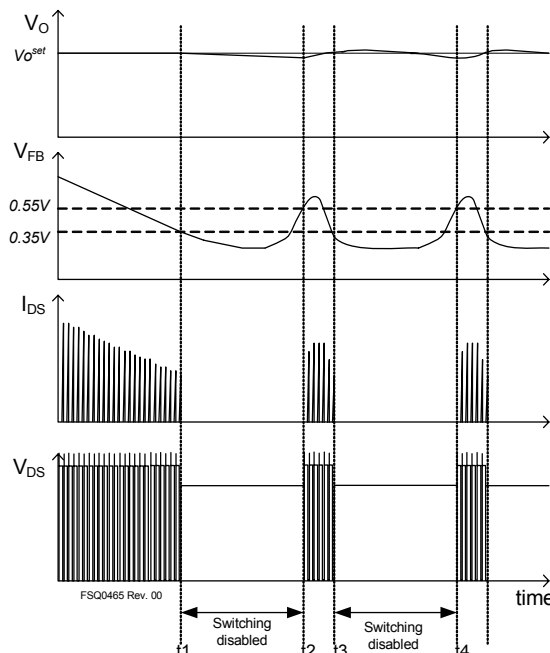

Figure 32. Waveforms of Burst Operation
**6. Burst Operation:** To minimize power dissipation in standby mode, the FPS enters burst-mode operation. As the load decreases, the feedback voltage decreases. As shown in Figure 32, the device automatically enters burst-mode when the feedback voltage drops below  $V_{BURL}$  (350mV). At this point, switching stops and the output voltages start to drop at a rate dependent on standby current load. This causes the feedback voltage to rise. Once it passes  $V_{BURH}$  (550mV), switching resumes. The feedback voltage then falls and the process repeats. Burst-mode operation alternately enables and disables switching of the power SenseFET, thereby reducing switching loss in standby mode.